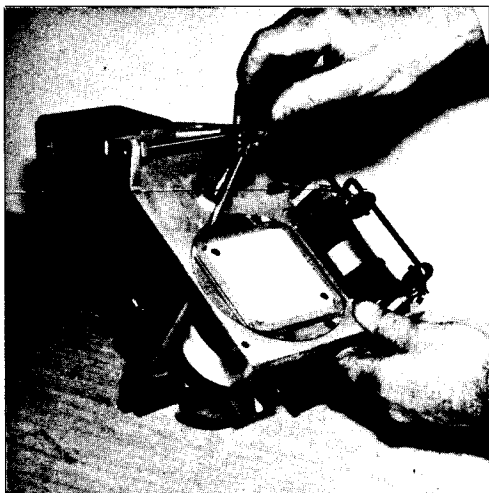

FIGURE 28
- Unscrew adjusting nut on vertical rod and allow brew chamber and H-frame to swing fully back. (FIGURE 28)